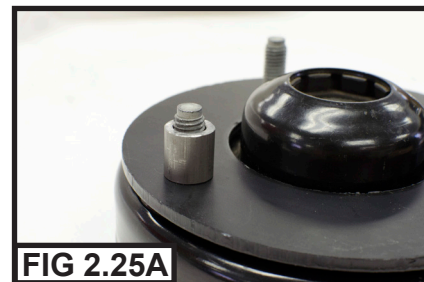

FIG 2.25A
- 12-A. Install **ONE** black Shim onto the strut mount. (FIG 2.25A)
- 12-B. Place the included **Height Trim Guage Tube** onto one of the studs on top of the black shim. (FIG 2.25A)